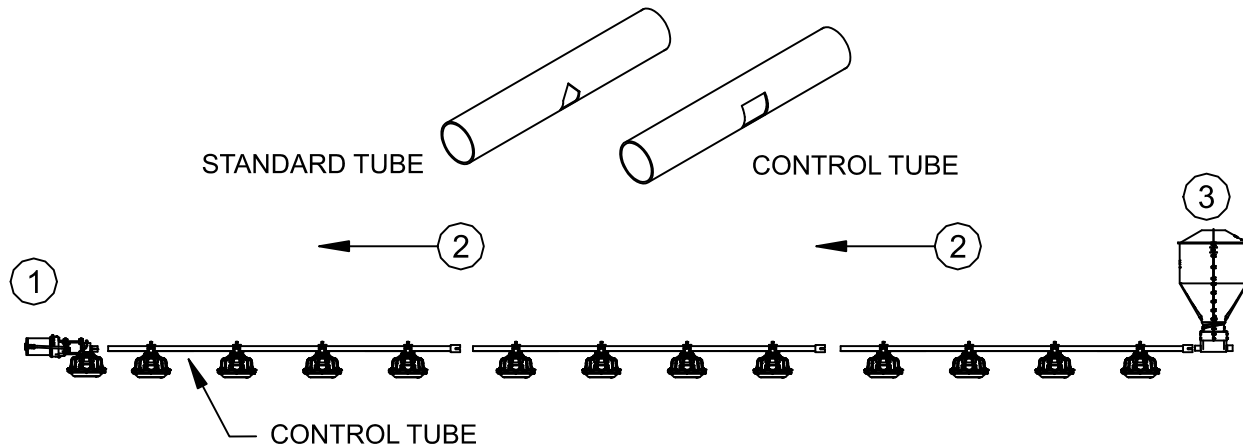

Figure 38. Attaching Feeder Tube Assemblies
1. The actuator, auger tubes and feeders may be laid out end to end in approximately the final location of the line. **The belled end of each tube should be toward the (3) Hopper end of the line. See Figure 38.** Be sure to have the correct number of tubes and the actuator is in the center of the section to be controlled by an actuator. **Place the actuator between the tubes near a suspension drop.** All actuators must be installed in the same direction. One actuator handles up to 96 feeder pans with the actuator placed dividing the (96) pans approximately in half.
2. Connect the individual feeder tubes together by inserting the straight end of one tube as far as possible into the (2) belled end of the next tube. **The last Feeder Tube before the (1) End Control Pan or Mid Line Control pan must be a Control Tube.**